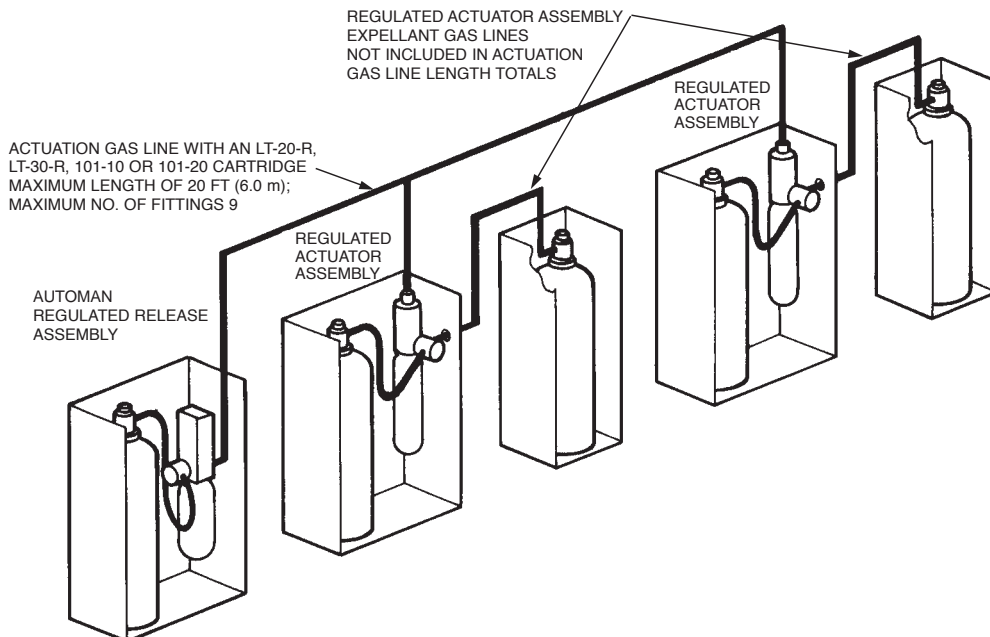

FIGURE 4-121
2. The actuation gas line piping is installed from the regulated release mechanism to each regulated actuator connected within the system. The total length of the actuation gas line from the regulated release assembly to the regulated actuator assembly(ies) **must not exceed 20 ft (6.0 m)** when using an LT-20-R, an LT-30-R nitrogen cartridge, or a 101-10 or a 101-20 carbon dioxide cartridge. See Figure 4-121.